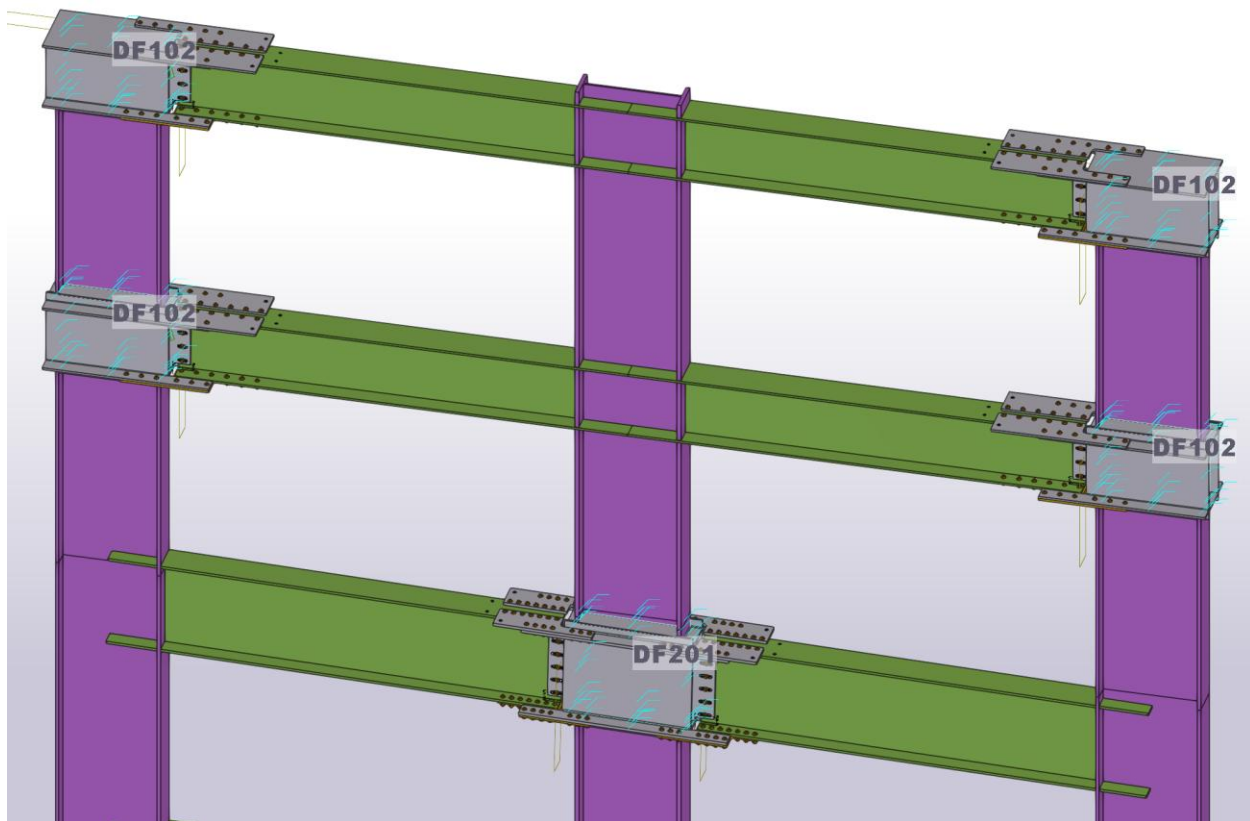

Figure 7-29. Displayed Connection ID's in Model
5. The connection ID will then be shown in the model (see Figure 7-29).